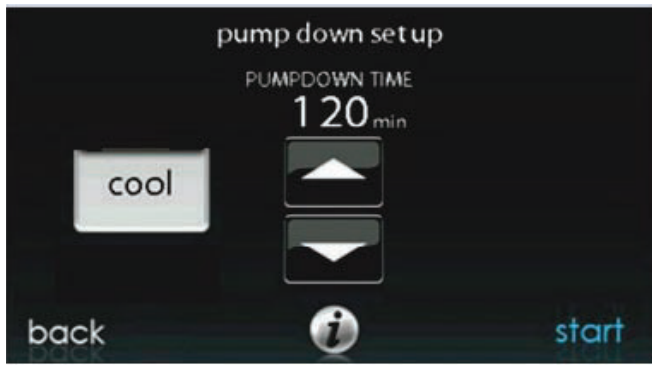

Fig. 24 – Pump Down Setup Screen
3. Pump down in COOL mode allows refrigerant to be isolated in outdoor unit. Set desired time period. Default time period for the procedure is 20 minutes. See Fig. 24.